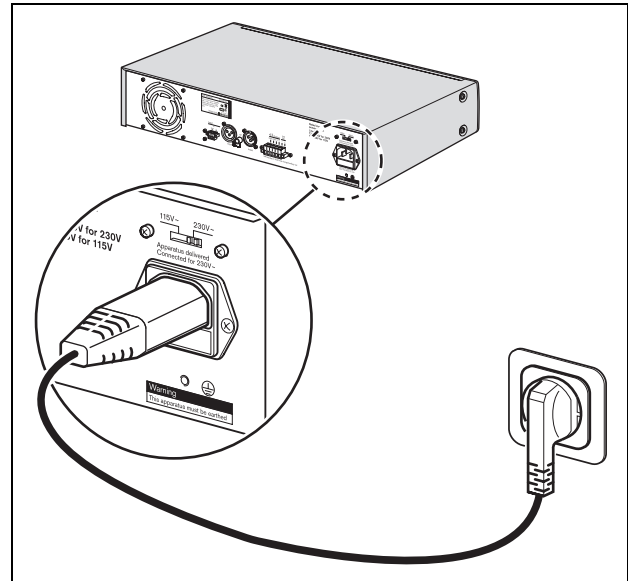

figure 5.1: Voltage selector
- 1 Make sure the mains voltage selector (115/230 VAC) is correctly set for the country's main voltage (see figure 5.1).
- 2 Set the power button (1) on the front of the unit to Off - popped out.